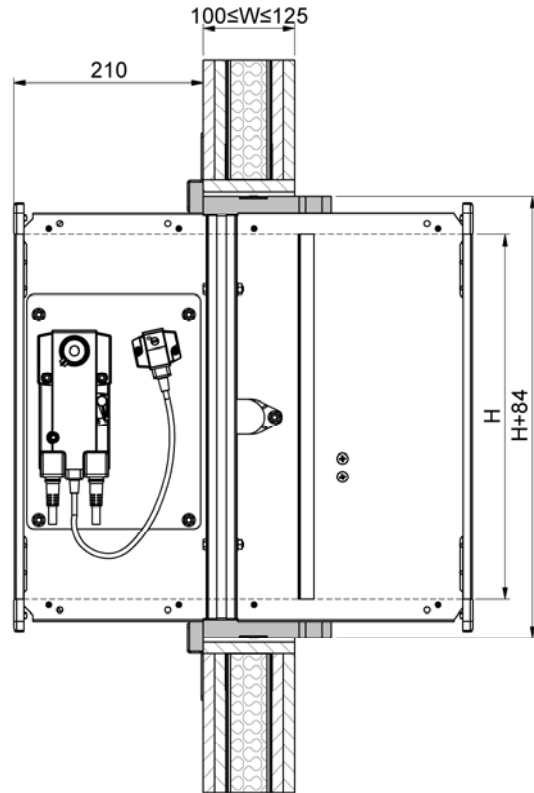

Figure 55: Dry installation in lightweight partition wall (F90)  $W \leq 125$  mm with ER-A1 installation frame
- Construct a circumferential reveal (pos 20) with 12.5-mm plaster boards and screw them centrally to the circumferential metal profile frame (pos. 33.2 - fastening: e.g. dry-wall screws  $\phi$  3.5 x 25 mm, screw distance  $\leq$  250 mm, but at least 2 screws per side).
- Insert the BKA-EN in the wall recess (dimensions: B+93+2 mm x H+93+2 mm), so that the stop of the installation frame type ER-A1 is in contact with the wall (operating side – observe the installation dimension of 210 mm up to the VK wall, see Figure 55). Average out the circumferential annular gap evenly between the wall recess and the installation frame type ER-A1. Mount the BKA-EN with the help of mounting suspensions, etc.
- The fire damper is fastened on all sides to the supporting structure (exchange profiles – pos. 10) using the appropriate number of fixing lugs (pos. 18; see Table 4) The fixing lugs are fastened to the supporting structure using 2 dry-wall screws for each lug (pos. 19 e.g.  $\phi$  3.5x35 mm; adjust the screw length to the panelling thickness).